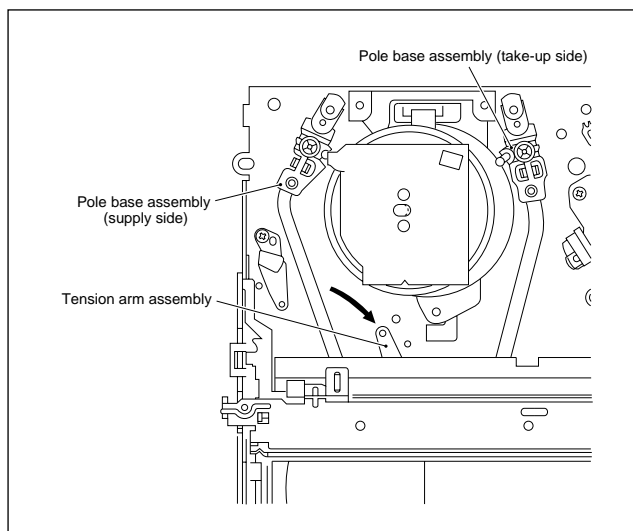

Fig. 2-1-3c
- (1) Unplug the power cable and remove the top cover, front panel assembly and others so that the mechanism assembly is visible. (See 1.3 DISASSEMBLY/ASSEMBLY METHOD.)
- (2) While keeping the tension arm assembly of the mechanism assembly free from tension, pull the tape on the pole base assembly (supply or take-up side) out of the guide roller. (See Fig.2-1-3c.)